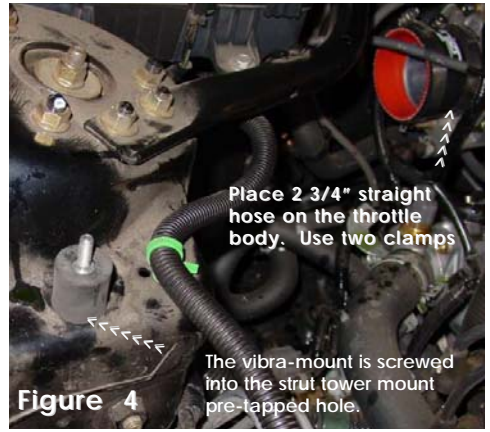

Figure 4
- 3 Place the 2 3/4" straight hose on the throttle body and use two clamps. Tighten the clamp on the throttle body at this point. (See figure 4)
- 4 Screw the first vibra-mount into the pre-tapped hole in the strut tower mount. (See fig. 4)